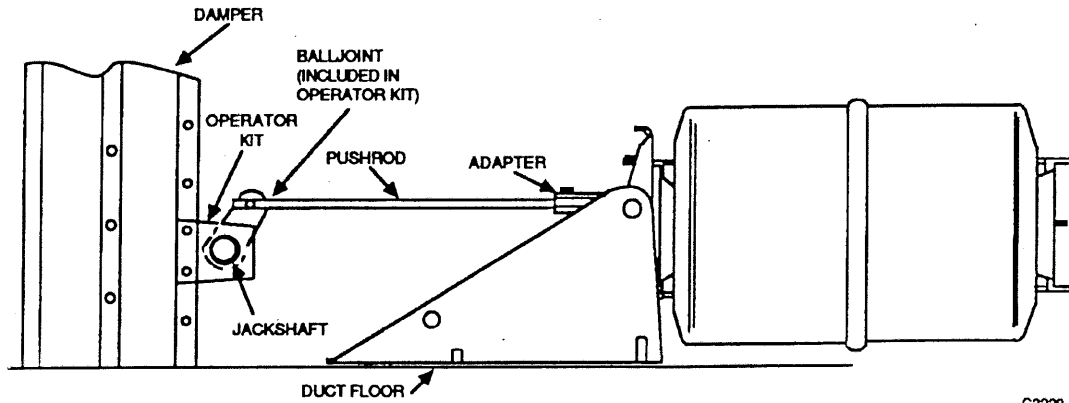

Fig. 28. Internal Mounting on Duct Floor Using Operator Kit.
2. Mount actuator inside duct (Fig. 28). Use balljoint included in operator kit.